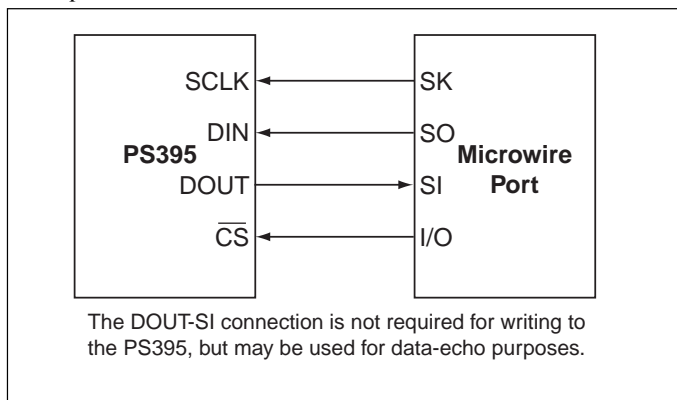

Figure 2. Connections for Microwire
- Between any two switches. See Figure 2.
7. Between any two switches. See Figure 2.
The PS395's three-wire serial interface is compatible with SPI™, QSPI™, and Microwire™ standards. If interfacing with a Motorola processor serial interface, set CPOL = 0. The PS395 is considered a slave device (Figures 2 and 7). Upon power-up, the shift register contains all zeros, and all switches are off.